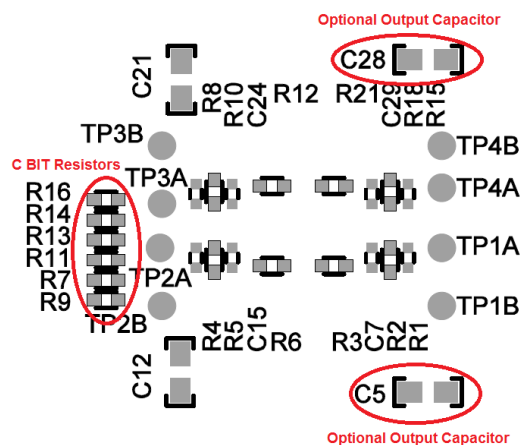

Figure 3. C Bit Resistors and Optional Output Capacitors for V_{OUT1} and V_{OUT4}
2. Set the associated C bit pins high or low as per Table 1 by opening and shorting the appropriate resistors. C1, C2, and C3 are set high by shorting R7, R11, and R14 respectively. C1, C2, and C3 are set low by shorting R9, R13, and R16 respectively. The C bit resistors are 0603 resistors located on the bottom of the board as shown in Figure 3.
9. The output capacitance requirement is a minimum of 22 μ F for each 1A of output current. Each output has an optional 0805 capacitor on the bottom of the board. Add the required amount of capacitance to C5 and/or C29 (shown in Figure 3) for V_{OUT1} and V_{OUT4} respectively, if needed.